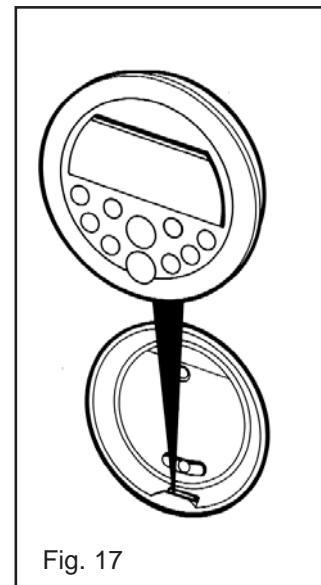

Fig. 17
- Fit the Handset on to the backplate by locating the tag on to the slot in backplate as shown (See Fig. 17).